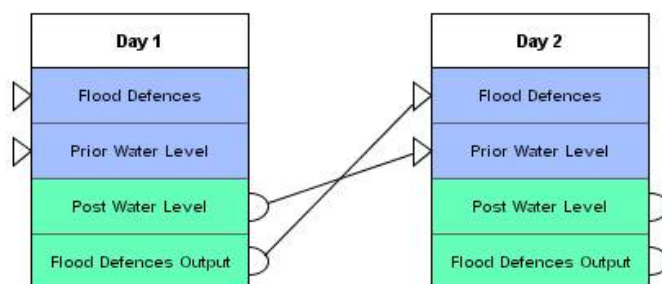

Figure 5 Two connections between two risk objects
5. Draw another link between *Flood Defences Output* in *Day 1* and *Flood Defences* in *Day 2* so that the two risk objects look like those in Figure 5.